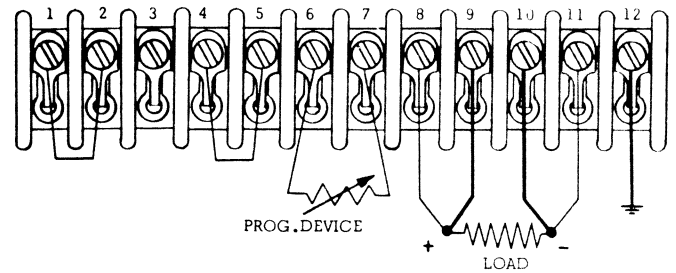

Figure 3-3. Voltage Mode Prog. Hookup
d. Remove link between terminals 6 and 7 (Figure 3-3), and connect in programming resistor. Use shielded or twisted wire for interconnecting leads.